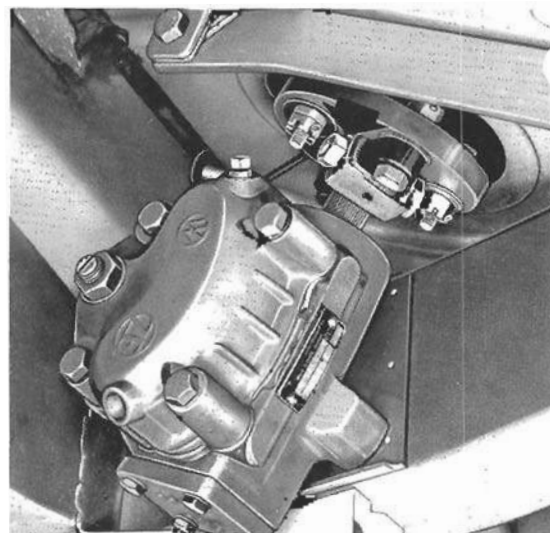

Fig. 9-16. Clamp bolt (arrow) that holds steering coupling flange or worm spindle.
4. Bend the lockplate away from the nut, and then remove the M 8 clamp bolt that holds the coupling flange on the steering gearbox worm spindle. (See Fig. 9-16.)